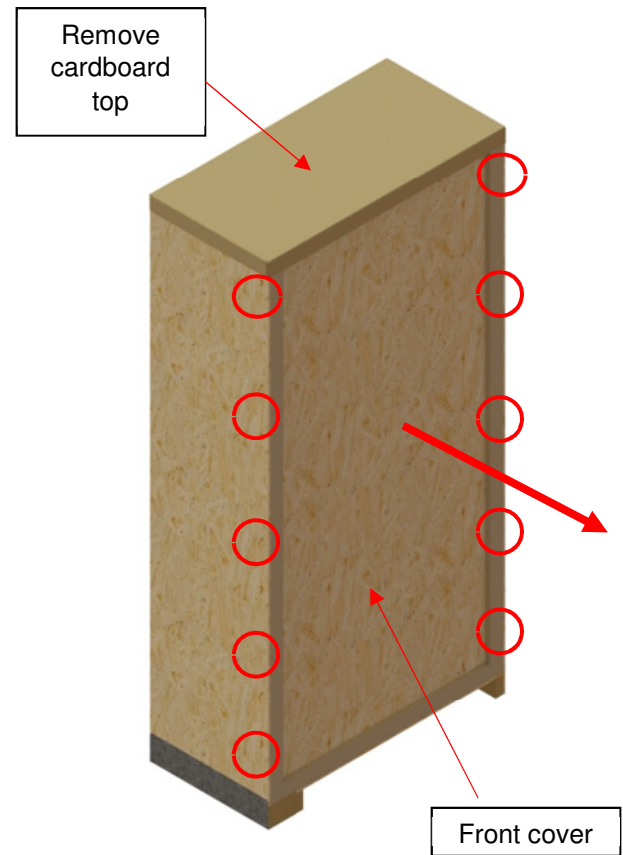

Figure 33
- 3) Remove the cardboard top. You might need a stepladder to reach it. (Figure 33)
- 4) Unscrew the #8-10 x 1.5 in. Robertson screws holding the front cover – 5 screws per side. (Figure 33)
- 5) Remove the front cover and discard. (Figure 33)